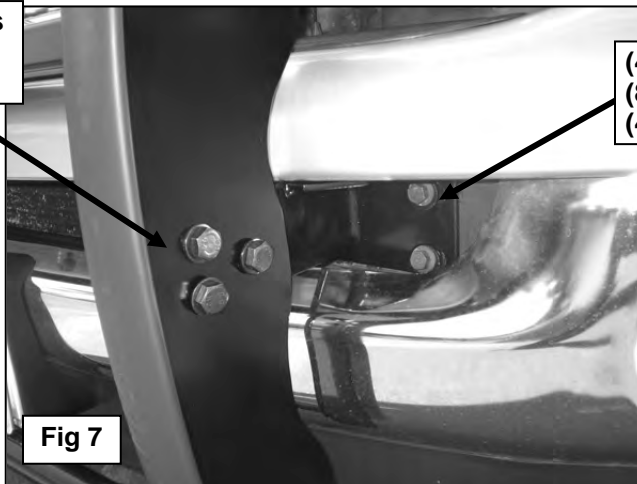

Fig 7
Select the driver side Frame Bracket, (**Figure 5**). Bolt the Bracket to the (4) holes in the end of the frame with the supplied (4) 10mm x 40mm Hex Bolts, (8) 10mm Flat Washers and (4) 10mm Nylon Lock Nuts, (**Figures 6A & 6B**). **NOTE:** Factory tow hook hardware may also be re-used with the included 10mm Flat Washers installed between Bracket and hex bolt, (**Figure 7**). Do not tighten hardware.
5. With assistance, lift the Grille Guard up to the outside of the Frame Mounting Brackets. Bolt the Grille Guard to the Brackets with (6) 12mm x 35mm Hex Bolts, (12) 12mm Flat Washers and (6) 12mm Nylon Lock Nuts, **(Figure 7)**. **IMPORTANT:** Slowly close the hood to check for clearance and fit of the Grille Guard and Brackets. Adjust as necessary then snug but do not fully tighten all of the hardware.